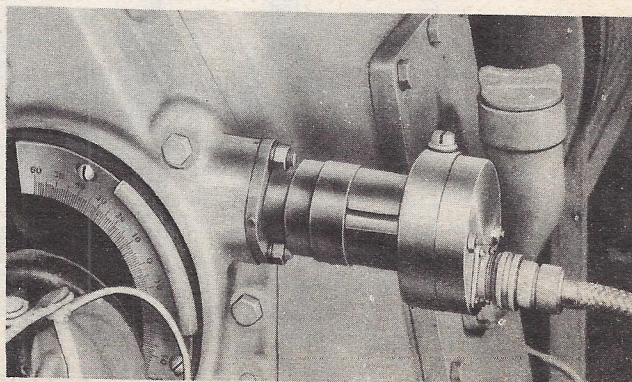

Figure 4 - Commutator Installed
(2) The COMMUTATOR, rotated by the engine crankshaft, to eliminate all signals except those generated during the combustion stroke of the engine piston. (See figure 4.)